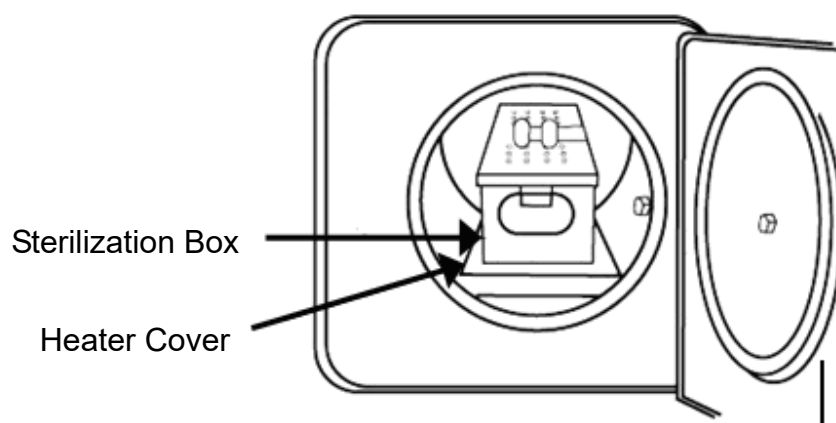

Figure 33 – Sterilization Box
D. Install the Sterilization Box as shown in Figure 33. (optional accessory)